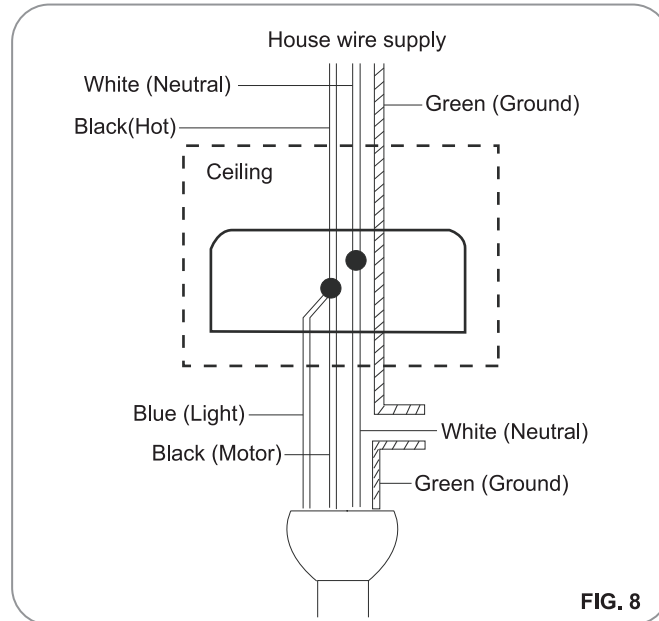

FIG. 8
Step 1. Connect the black (hot) wire from the ceiling to the black and the blue wires from the fan. Connect the white (Neutral) wire from the ceiling to the white wire from the fan. (Fig.8)
Step 2. Connect the ground wire (green or bare copper) from outlet box to the ground wire of hanging ball and the ground wire of mounting bracket. (Fig.8)